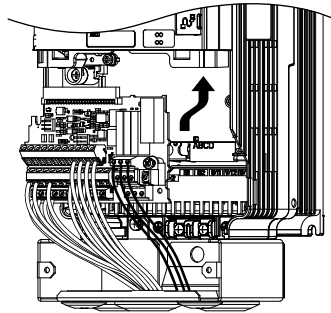

Figure 7.61 Install the Terminal Board
1. After wiring the main circuit, connect the terminal block to the drive as shown in Figure 7.61. Use the installation screw to fasten the terminal block into place.